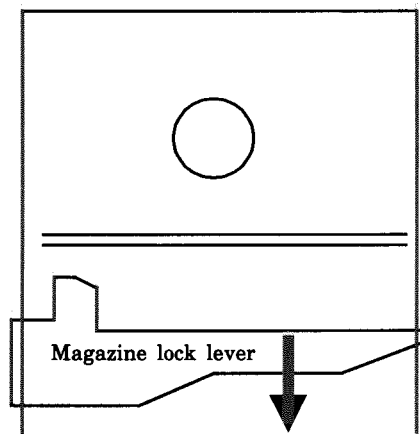

Fig12 Mech. top side
- (14)** After inserting the turntable, bond the motor shaft and turntable together (at the section marked by an arrow in fig 12 on the left below).